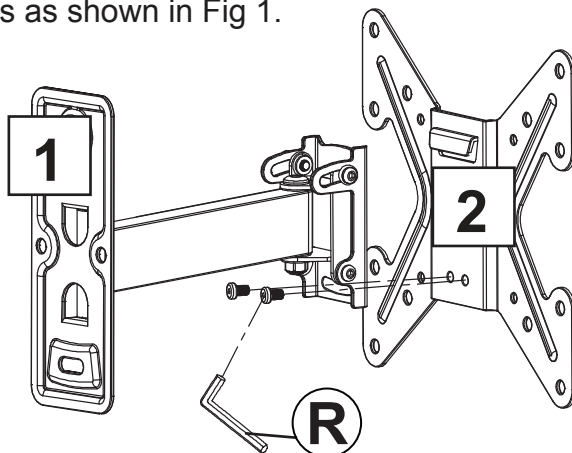

Fig. 1
1. Use the Allen wrench (R) to remove the two M6x12 Bolts and separate the Wall Plate (1) and TV Plate (2) into two pieces as shown in Fig 1.